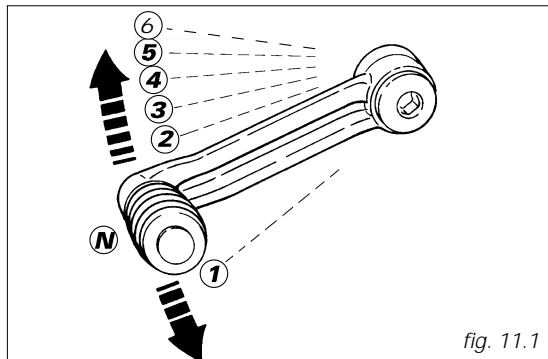

fig. 11.1
*Gear change pedal (fig. 11.1)*